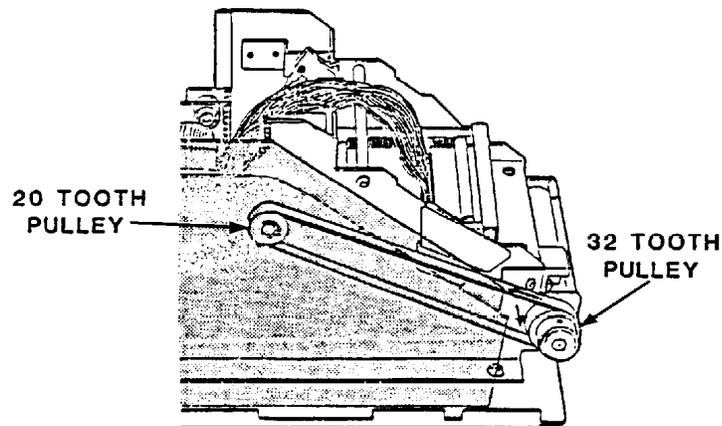

FIGURE 3
1. Remove the drive belt by holding and pulling the belt away from 32 tooth pulley while rotating the pulley (figure 3)